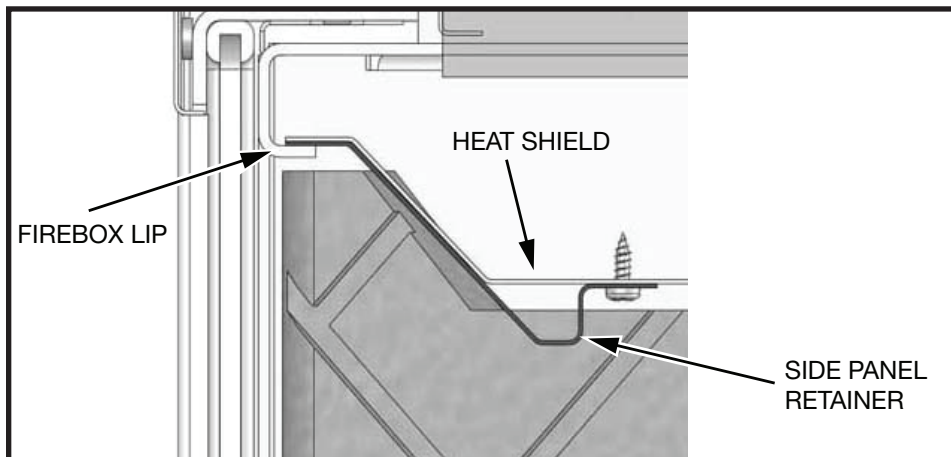
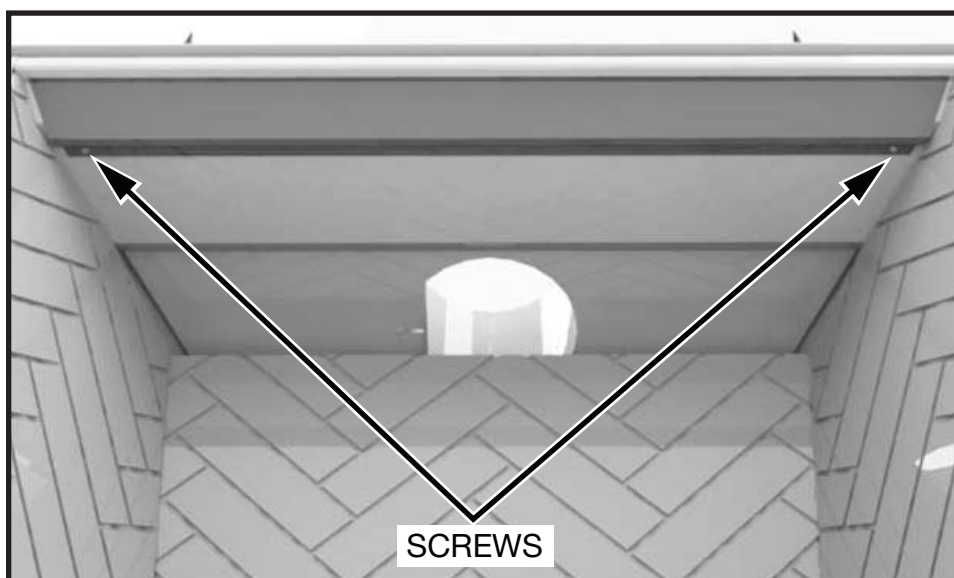

Figure 49: Side retainer.
Figure 50: Retainer panel screws location.
1. Remove the Side Panel Retainer (Figure 49) located on the underside of the firebox heat shield. The retainer slips between the lip of the firebox and the heat shield and is retained in place by two screws (Figure 50).